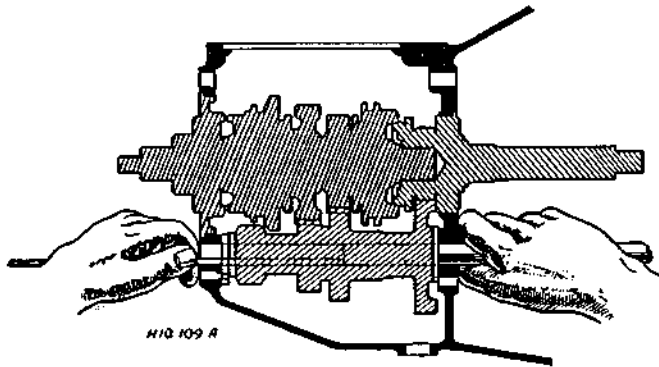

Fig. 7.
1. To remove Third Motion Shaft it will first be necessary to free it from the Laygear. (Fig. 7).